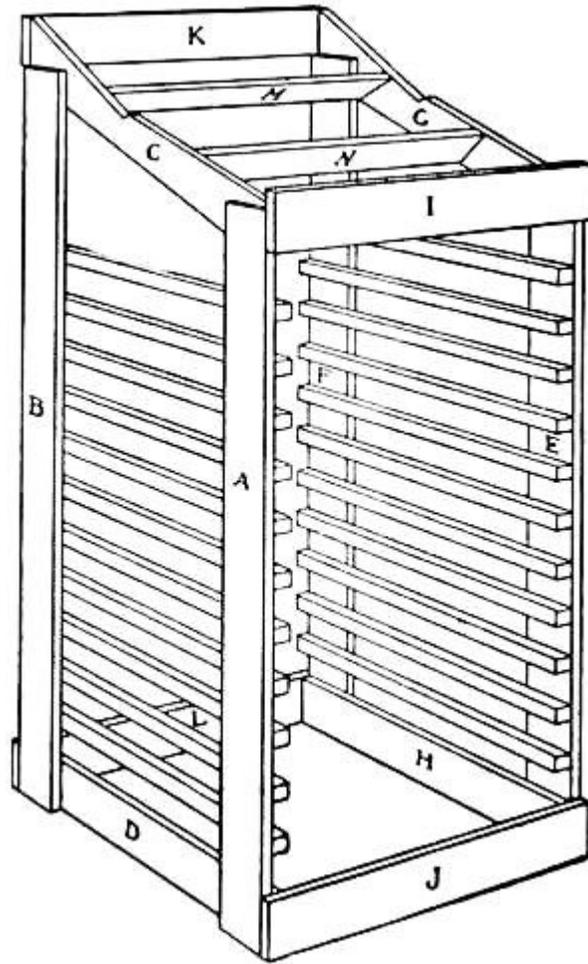

FIG. 148.—A Type-case Rack.
**A Rack for the Type-cases** until you have added several styles of type to your outfit. Then you will find a rack such as is shown in Fig. 148 one of the best methods of keeping the type away from the dust and at the same time in an accessible place.
When both frames have been made, they should be fastened together by means of the crosspieces shown in Fig. 148. Measure the width of your cases, which varies somewhat with different makes,